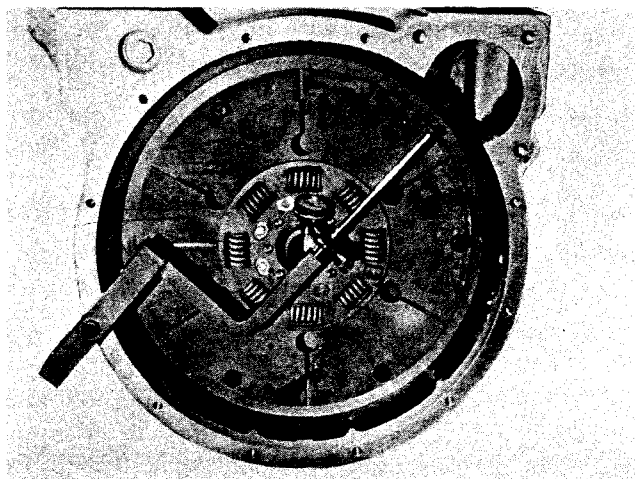

Fig. 5-11, (V11475). Checking drive plate run-out
2. Attach ST-112 and a dial indicator to flywheel housing; bar engine over in direction of rotation and check drive plate run-out. Fig. 5-11. It should be within TIR of 0.005 inch [0.13 mm].